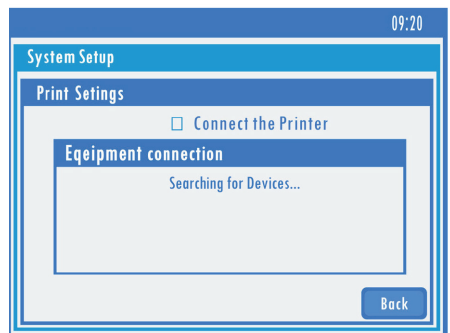

Fig 5-9 Searching for Devices
2. Click the small box in front of the [ connect the printer], start signal search function shown as **Fig 5-9**.